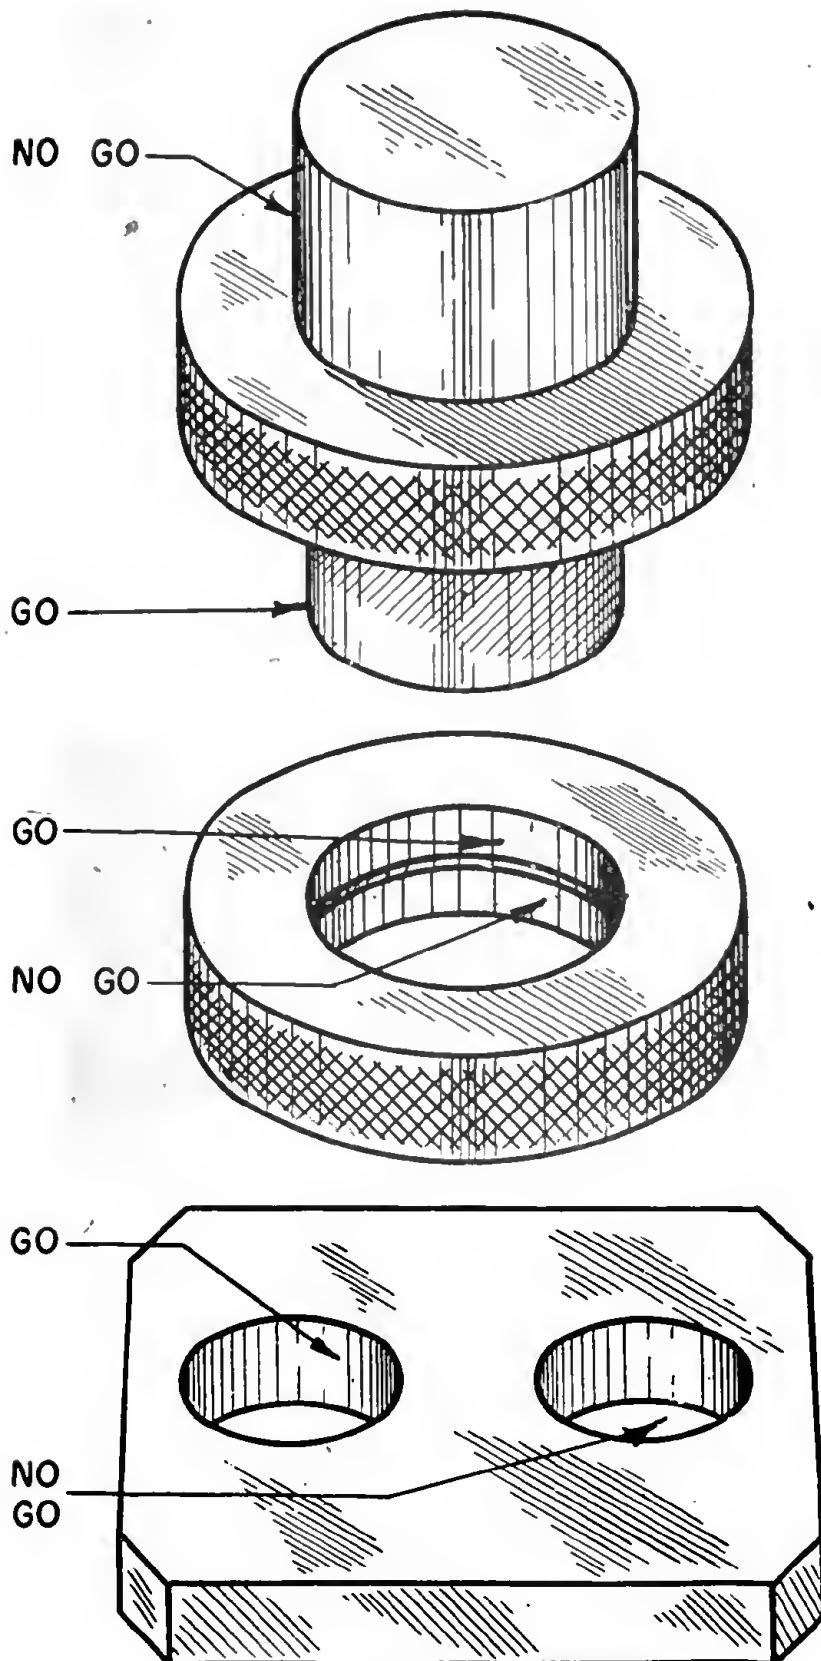

Figure 64. Go, no-go gauges.
i. Go, no-go GAUGES. Go, no-go gauges are used mostly in production work. One end is the go end and it should fit the machined part. The other is the no-go end and it should not fit. If the go end fits and the no-go does not, the part is within the specified tolerance. Two types of go, no-go gauges are shown in figure 64.